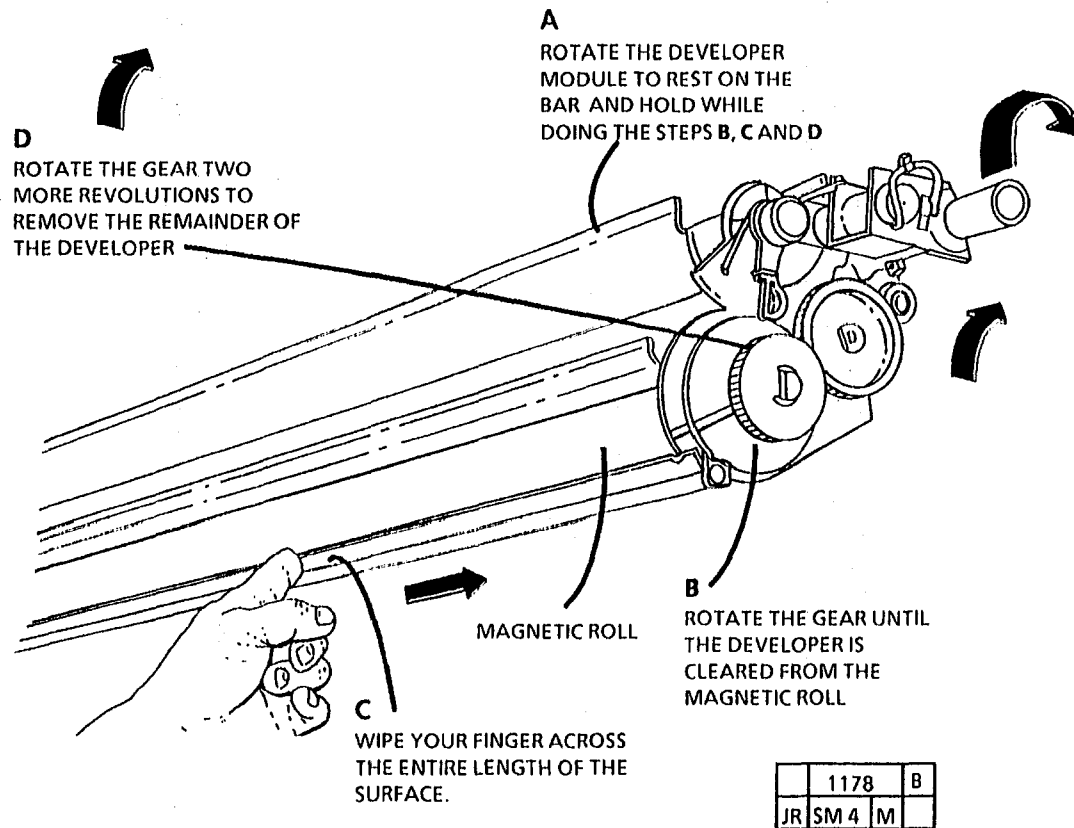

Figure 3. Cleaning the Developer from the Magnetic Roll
1. (Figure 3): Clean the developer from the magnetic roll.